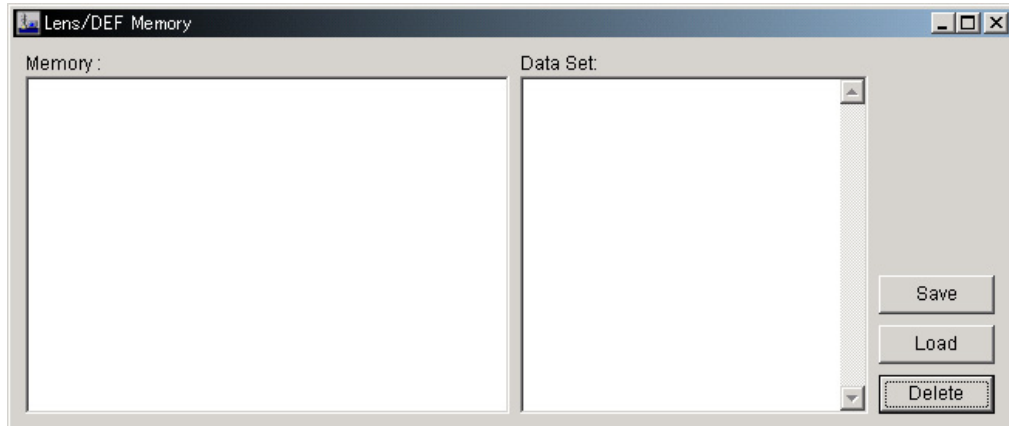

Fig. 5.63 Lens/Def Memory window
- ◆ Select **Maintenance** from the **TEM Controller** menu bar and click on **Lens/Def Memory** to open the **Lens/Def Memory** window (☞ Fig. 5.63).